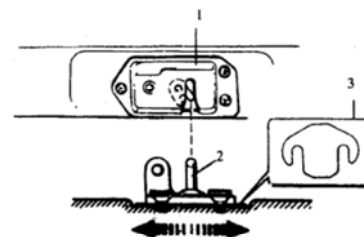

Fig. 4.2-3
- 1) Regulate lock ring assembly to make lock ring axis aim at the center position of lock flute approximately, see Fig. 4.2-3.